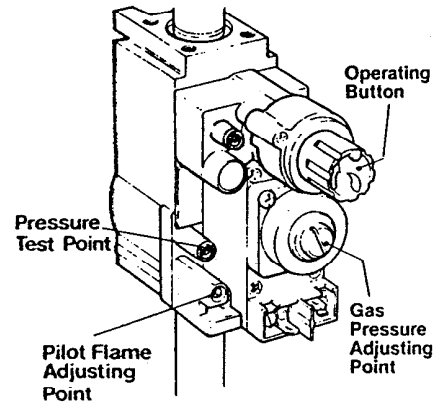

Fig 3. Multifunctional control
- 6.8.2 Remove the cover from the adjustment point on the multifunctional control (see Fig.3), release the pressure test point screw and attach a pressure test gauge.
- 6.8.4 Push the START button (marked with a flame symbol) on the multifunctional control (see Fig.3) fully in and hold. Repeatedly press and release the piezo unit until the pilot burner lights. Note: If the piezo unit should fail to spark, the pilot burner may be lit by applying a lighted taper to the pilot burner whilst the START button is pushed in.
- 6.9.1 To adjust the burner pressure, remove the cover and turn the gas pressure adjusting screw (Fig.3) clockwise to increase, anticlockwise to decrease.
Attach a gas pressure gauge to the burner setting pressure test point on the multifunctional control (see Fig.3). Light the heater, check the pressure and confirm by a gas rate check at the meter.